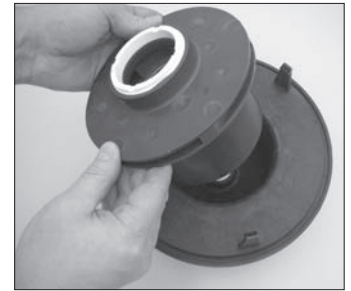
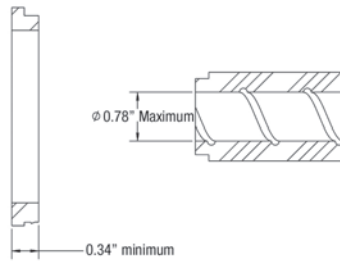

Figure 18
Figure 19
10. Remove impeller/inner drive assembly (items 7A, 7, 8, 8A). Inspect for signs of rubbing, damage and wear. See figure 18. Check the impeller thrust ring and bushing for wear. See figure 19.